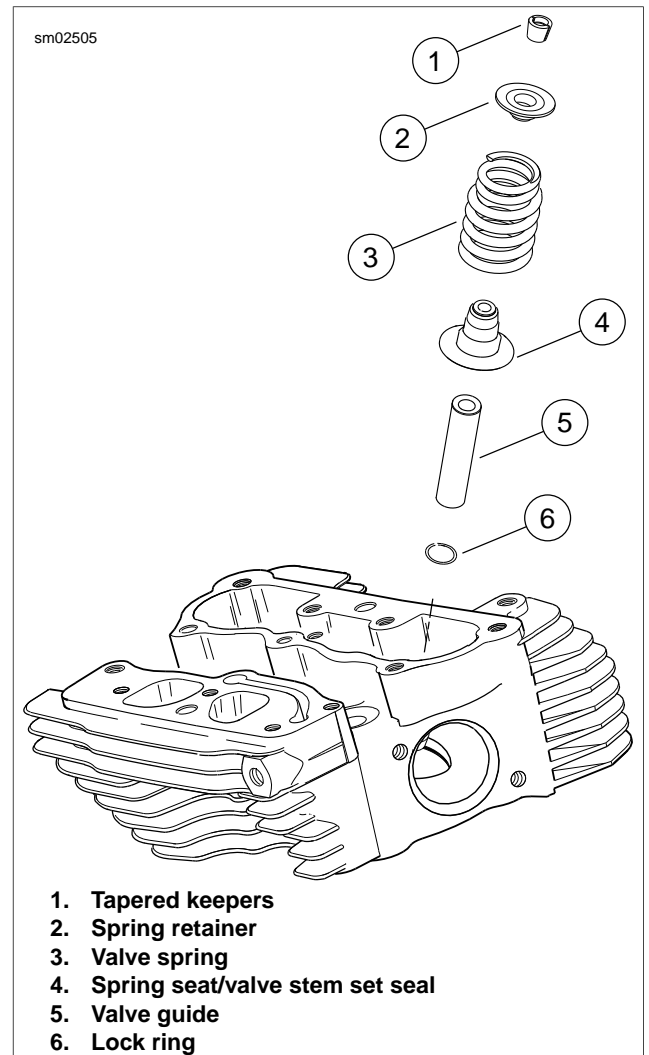

Figure 3-99. Valve Assembly
11. See Figure 3-99. Apply a liberal amount of assembly lube to valve stem tip and keeper groove (1).
12. With the smaller diameter coils topside, install the valve spring (3) over the valve guide (5). Place the spring retainer (2) on top of the valve spring.